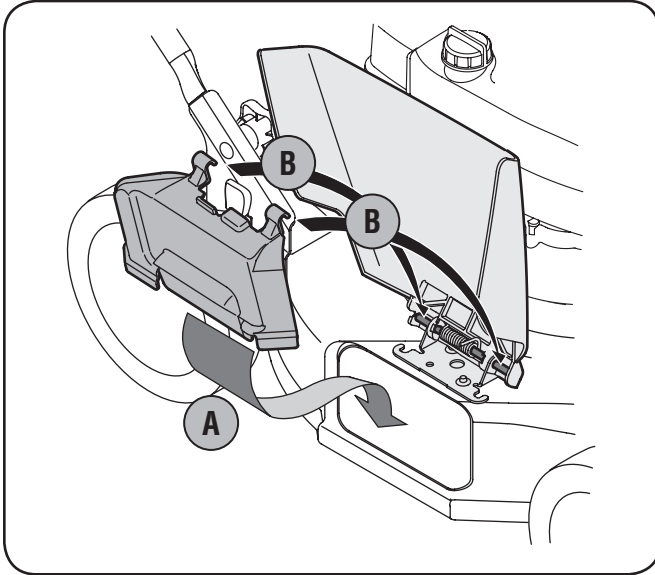

Figure 3-6
- a. Lift up and hold the side-discharge chute deflector and insert bottom lip of the mulching baffle inside the chute opening See Fig. 3-6.